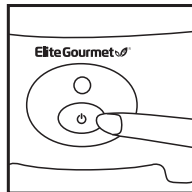

Fig. 4
5. Press the Power Button to start cooking (Fig. 4). Depending on the amount of popcorn and size of kernels, it may take 3-4 minutes for the popcorn to begin popping.